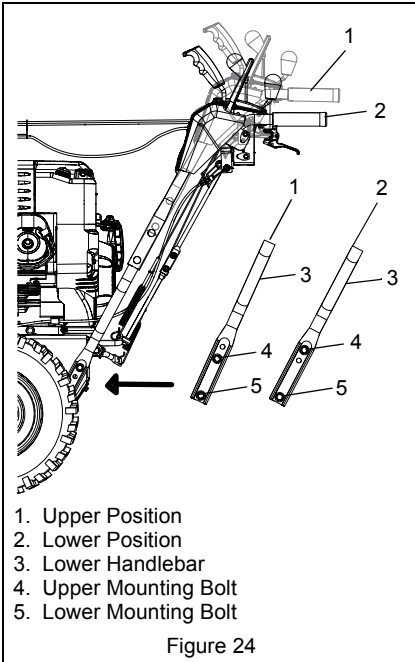

Figure 24
(Figure 24)
4. Secure handlebar to frame with hardware removed in step 3 using the different hardware locations shown in Figure 24.